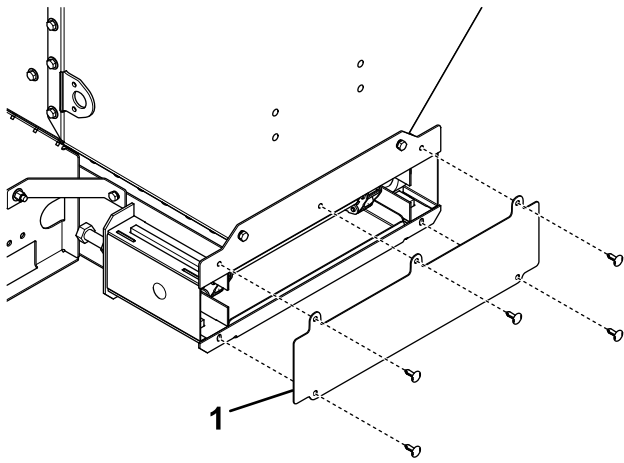

Figure 25
2. Remove the back cover shown in Figure 25.